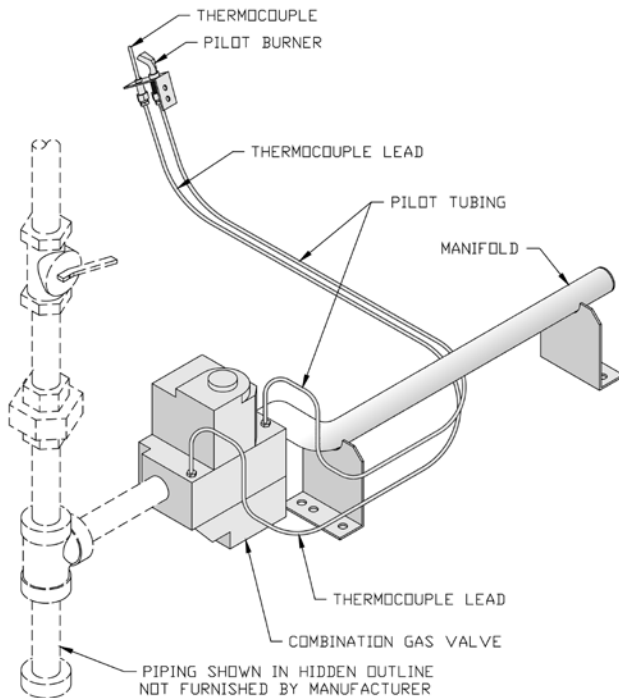

Figure 8: Pilot and Gas Piping, Continuous Ignition (Standing Pilot)
3. Install sediment trap, ground-joint union and manual shut-off valve upstream of boiler gas control valve. See Figure 8 or 9.